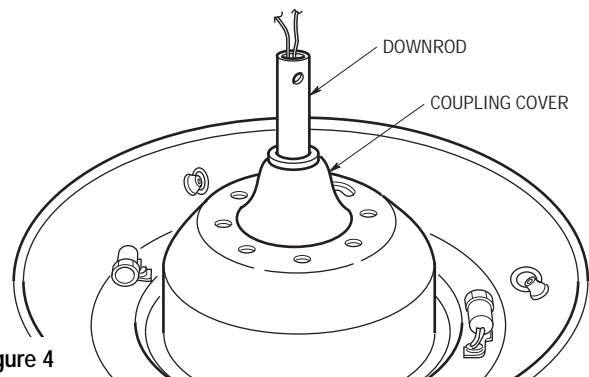

Figure 4
3. Make sure the grommet is properly installed in the coupling cover, then slide the coupling cover on the downrod until it rests on the motor housing (Figure 4).